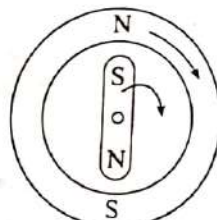

Fig. 1(b)
- If the relative position between rotor poles and stator poles at starting is as shown in Fig. 1(b), the unlike poles will get attracted and the tendency of the rotor will be to rotate in clockwise direction along with the stator poles.